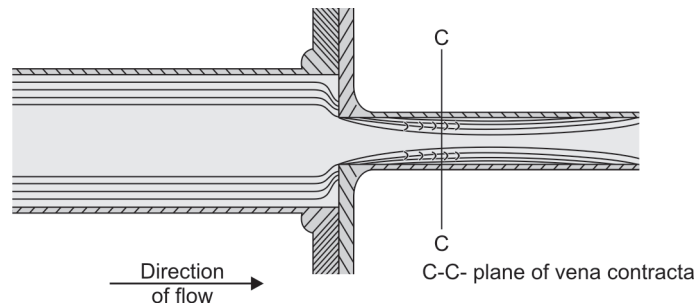

Fig. 1.14: Energy losses due to contraction
- b. Contraction losses:** (Figure 1.14) when the cross-section of the pipe is reduced at sudden the fluid flow becomes disturbed. The velocity of fluid at smaller cross-section known as vena-contracta will be far greater than that at larger section. The losses are observed due to additional eddying.